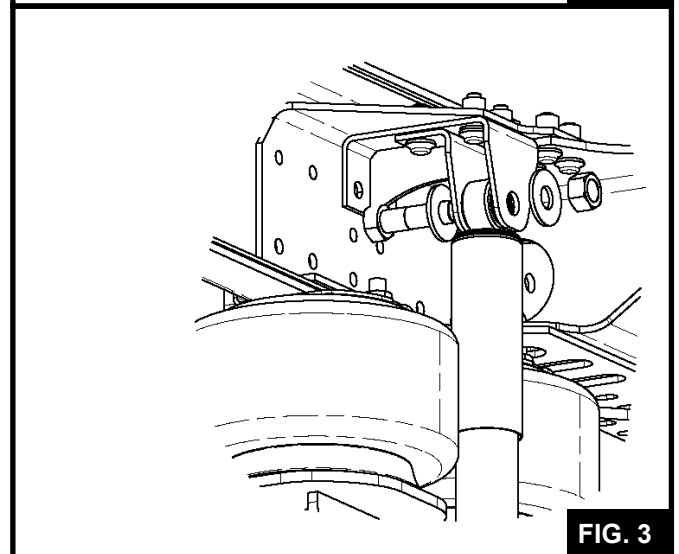

FIG. 3
5.5 Align the upper shock eye until the bolt lines up with the threaded hole in the frame mounted shock bracket (See FIG. 3).